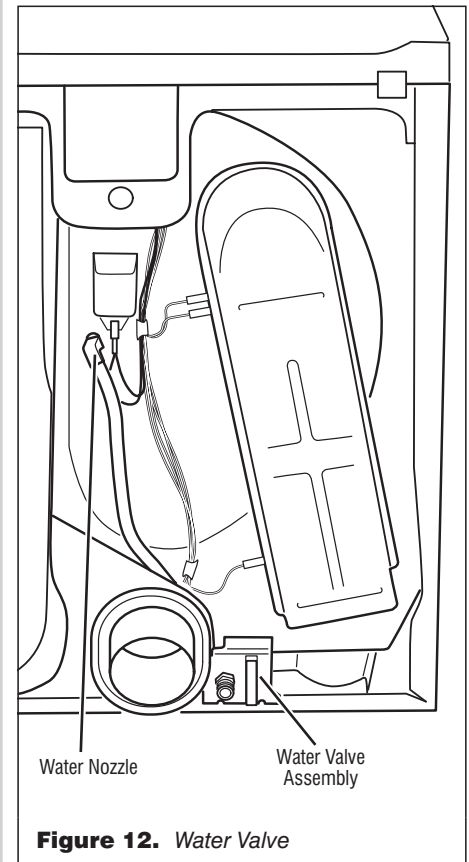

Figure 12. Water Valve
- Check that the wires and hose are connected to the water valve assembly. See figure 12.